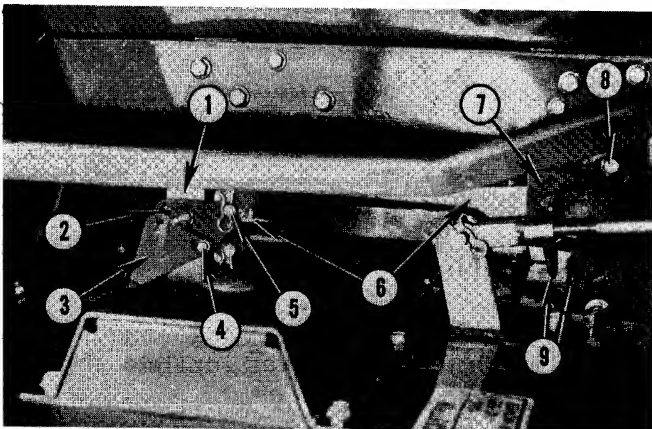
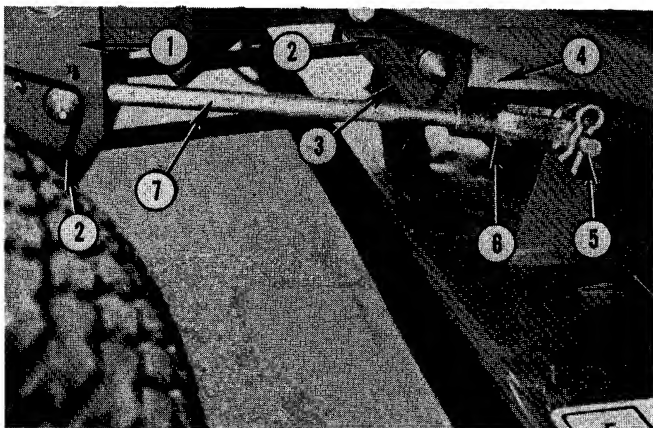

Fig. 35 — Preparing Tractor
Fig. 37 — Mower Installation
3. Attach hanger straps to outside of Tractor lift arms with flatwashers and cotter pins. These parts may be retained on Tractor when mower is detached, see Fig. 35.
1. Install link springs, No. 2, Fig. 35, on outside of mower rear attaching brackets, No. 3, with 1/4" x 3/4" Hex Head bolt and flange lock nut, No. 4.
3. Attach lift arms, No. 4, Fig. 37, to rear anchor plate, No. 3, and hanger straps, No. 1, Fig. 35, to mower. Secure in place with link springs.
With Tractor on level surface and tires correctly inflated, place 2 x 4" edgewise under front center of mower and gauge wheels in full up position. Shorten adjusting links, No. 7, Fig. 37, sufficiently so that they will just enter brackets, No. 1. Press links into place with latch springs in grooves of front link pins.